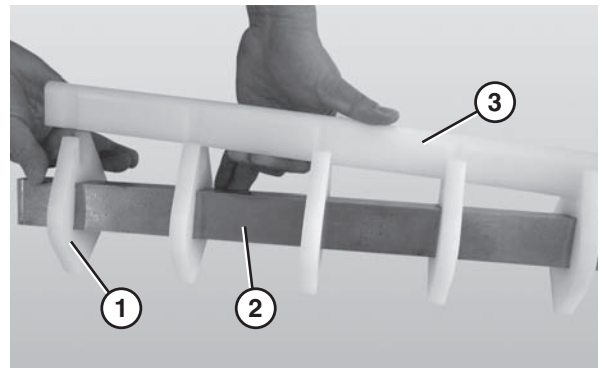

Figure 68
- Remove the nose bar wear strip (**Figure 68, item 3**).
- Slide the nose bar pucks (**Figure 68, item 1**) off the nose bar shaft (**Figure 68, item 2**).